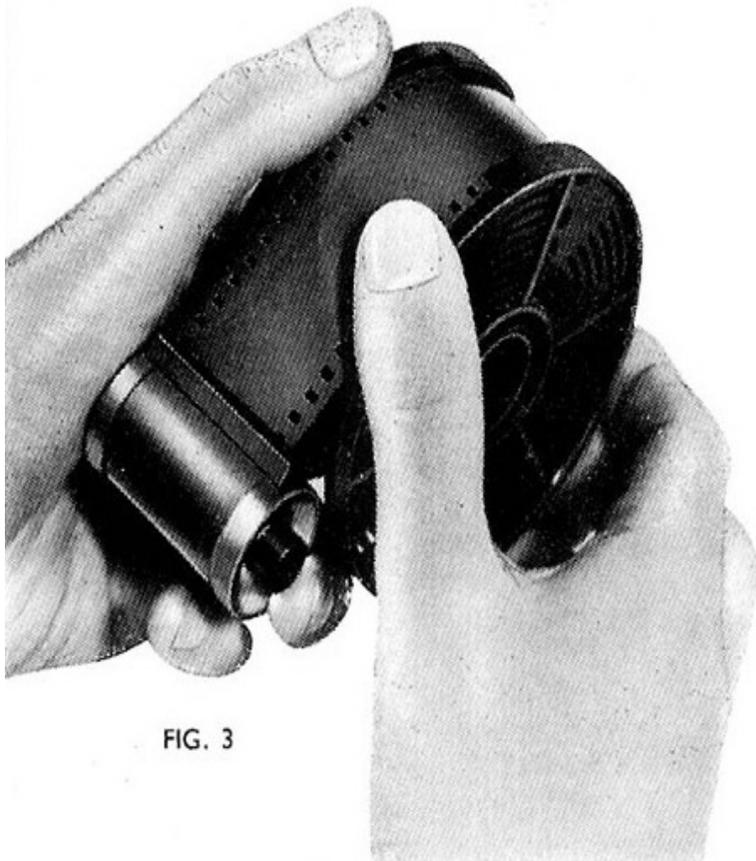

FIG. 3
4. Hold the spiral as shown (fig. 3) allowing the coil of film or cassette to rest on the left hand. A cassette should always be held as illustrated, gripping it securely between the ball of the left thumb and the second or third finger. Take care that the finger does not foul the spool end projecting from the cassette which must, of course, rotate as film is withdrawn. A coil of film should be allowed to rest on the left palm. Never allow the
Do not use force. Note especially the position of the thumbs (fig. 3) which overlap the edges of the film and are placed immediately in front of the entrances to the spiral. Do not move the thumbs from this position during loading. This is important as they serve to guide the film into the spirals and also prevent the spirals from being